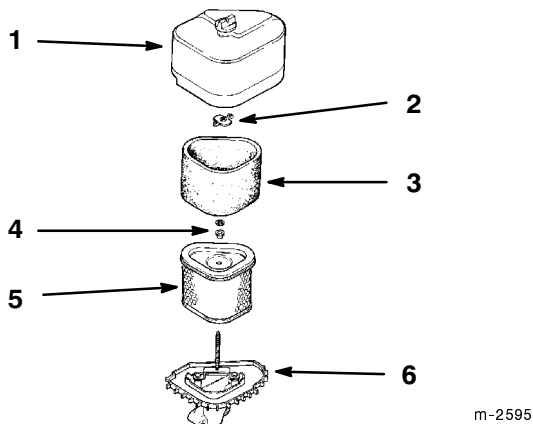

Figure 20
2. Clean around the air cleaner to prevent dirt from getting into the engine and causing damage. Unscrew the cover nut and remove the air cleaner cover (Fig. 20).
3. Remove the air cleaner assembly (Fig. 20).
4. Carefully slide the foam element off the paper element (Fig. 20).
1. Carefully slide the foam element onto the paper air cleaner element (Fig. 20).
2. Place the air cleaner assembly onto the air cleaner base (Fig. 20).
3. Install the air cleaner cover and secure with cover nuts (Fig. 20).